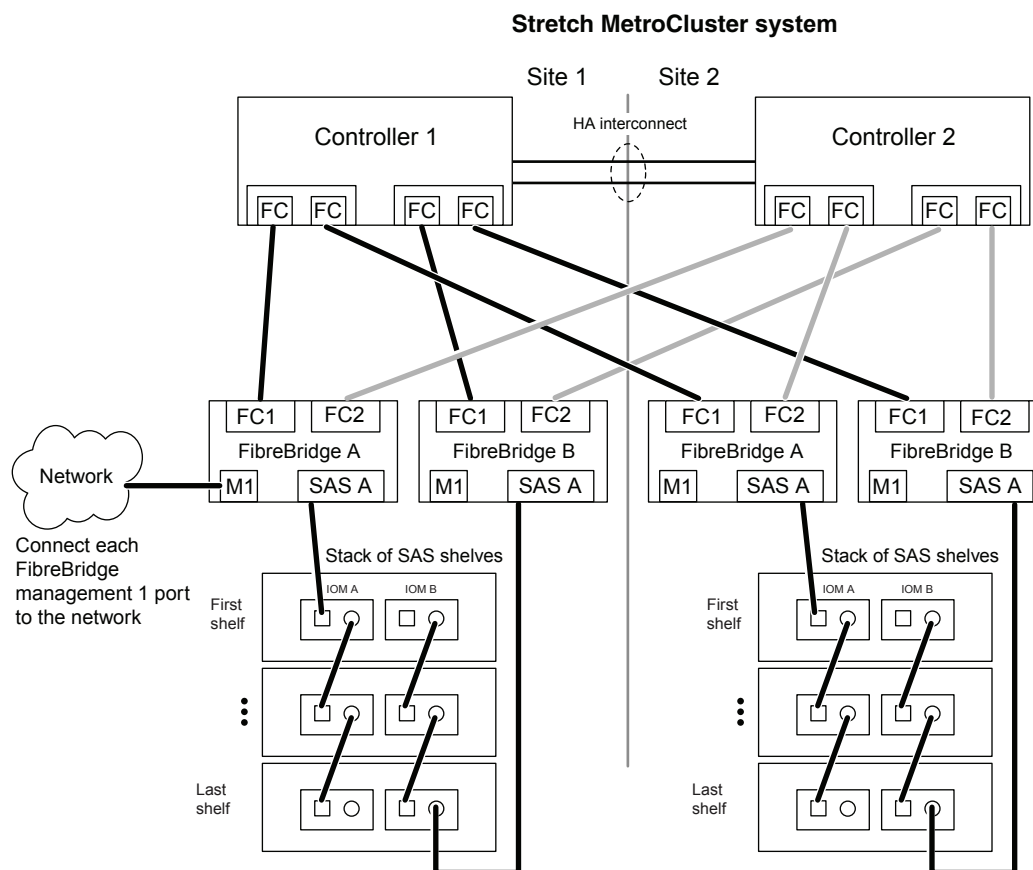
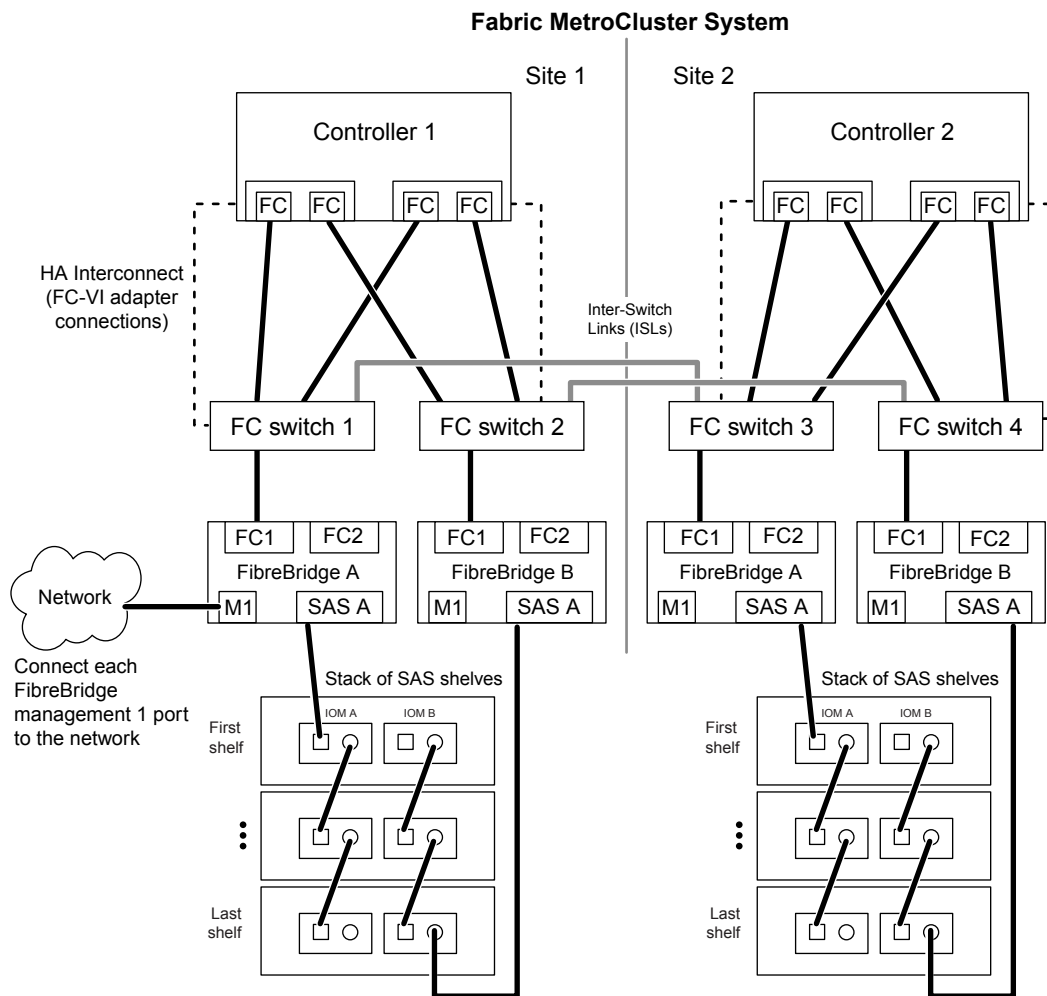

Figure 1. Stretch MetroCluster system
Figure 2. Fabric MetroCluster system
Figure 1 and Figure 2 are examples of fully-cabled, stretch and fabric-attached MetroCluster systems. To see an example of a shared-switch configuration, see the *IBM System Storage N series Data ONTAP 8.1 7-Mode High-Availability Configuration Guide*.
- Cable each FibreBridge to the controllers or FC switches, depending on the MetroCluster configuration, as shown in Figure 1 and Figure 2:
Fabric-attached MetroCluster configuration	<ol style="list-style-type: none"> Cable FC port 1 of FibreBridge A to FC switch 1 at Site 1. Cable FC port 1 of FibreBridge B to FC switch 2 at Site 1. Repeat substeps 1 and 2 for Site 2. Figure 2 indicates attaching the second pair of FibreBridges (A and B) to FC switches (3 and 4) for site 2. <p>Note: You can connect the FibreBridge to any available port on the FC switch. Whichever port you choose, use the same port consistently on each FC switch. This is for ease of manageability. For example, if you choose FC switch port 3, use only that port on each FC switch.</p> <p>Note: The FC port 2 on the FibreBridge remains unused.</p>